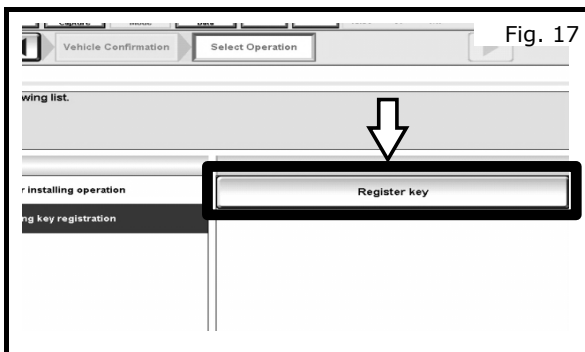

Fig. 17
- a) Once you click "When performing key registration" a new Contents of Operation selection "Register Key" will be available as shown in Fig. 17.
- b) Under Contents of Operation selection click "Register Key" as shown in Fig. 17.